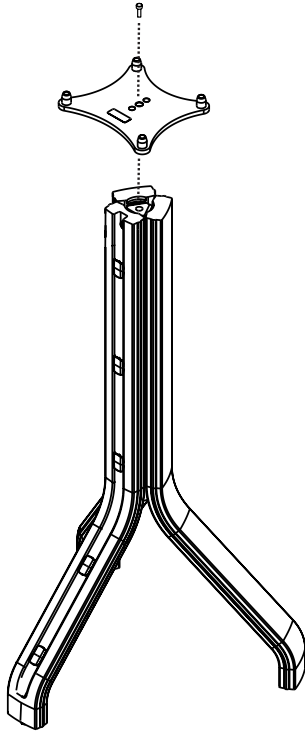

Figure 3. Attaching the adapter plate
3. Attach the correct stand plate to the stand with a screw (see Figure 3). Align the plate so that the leg B with the groove for cables points away from the listening position.